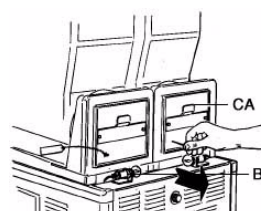

FIGURE 28
2. Then remove the light bulb(s) (BA) (see Figure 28).
3. Insert the new bulb(s) (BA).
4. Reassemble the rear back-lit merchandiser (AA) making sure that its slots are inserted properly in the relevant brackets (CA) (see Figure 28).